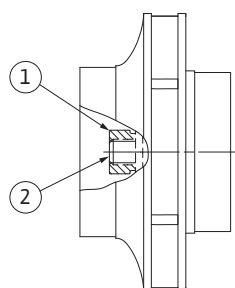

Fig. 52: Correct position of the impeller nut after the installation
29. Hold on to the shaft (see step 24) and tighten the impeller nut with the specified tightening torque (see list "Table 11: Screw tightening torques" on page 114). The nut (Fig. 52, Item 1) has to be about ± 0.5 mm flush with the end of the shaft (Fig. 52, Item 2). If this is not the case, release the nut and repeat steps 25 to 29.